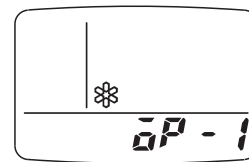

Fig. 12
- d) ✿ appears with “oP-1” blinking in the remote controller clock display area. (Fig. 12)